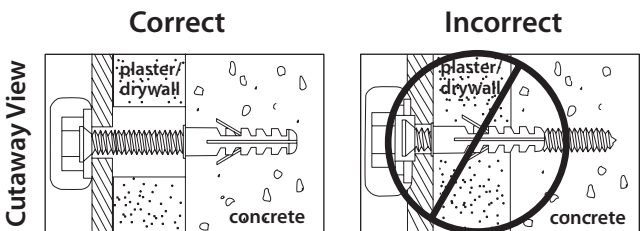

Figure 3
- Pre-drill holes into concrete using 5/16" drill bits to a depth of 2 1/2". Insert concrete Wall Anchors (D) and tap in-with hammer, if necessary (Figures 3 & 4).